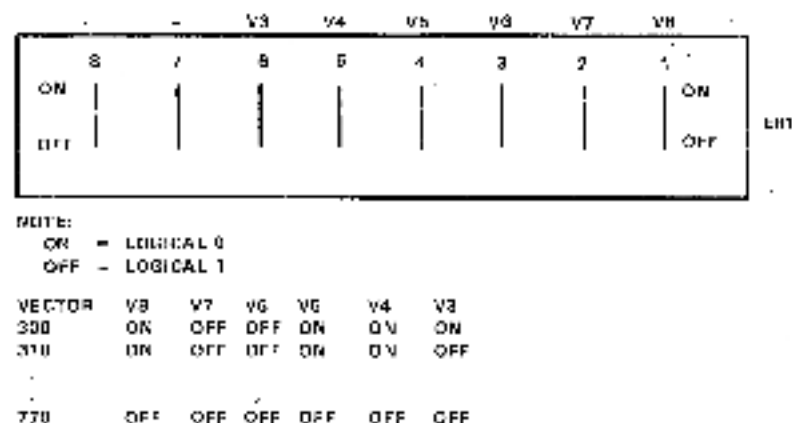

Figure 2-5 M7814 Vector Selection
3. Vector selection is accomplished by an 8-position switch at E81 on the module(s). When a switch is closed (on), a binary 0 is decoded. When a switch is open (off), a binary 1 is decoded. Note that this is the opposite of the address switch decoding. Also, note that switch positions 7 and 8 are not used and switch 6 corresponds to bit 3, 5 to bit 4, etc. (Refer to Figure 2-5.)